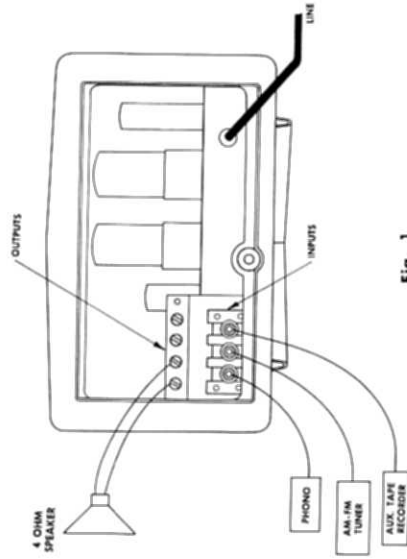

Fig. 1
2.2 Connect to output of phonograph, tuner, tape, preamplifier or auxiliary equipment. (See Fig. 1.)
2.3 Connect speaker to output terminals. The Amplifier will accommodate a speaker with impedances of 4, 8 or 16 ohms. (See Fig. 1.)